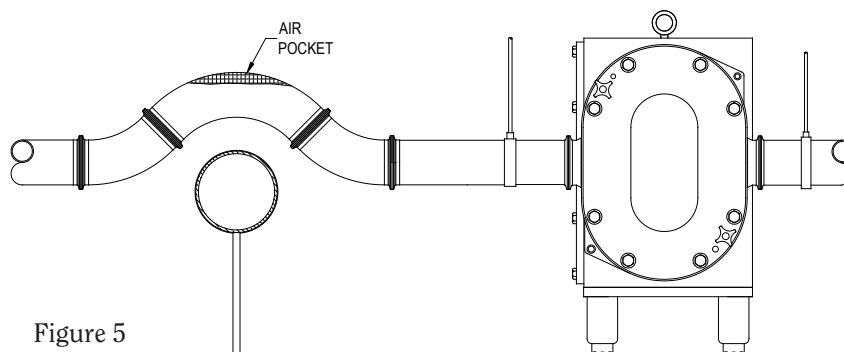

Figure 5
- Avoid the formation of air pockets in the piping (Figure 5).